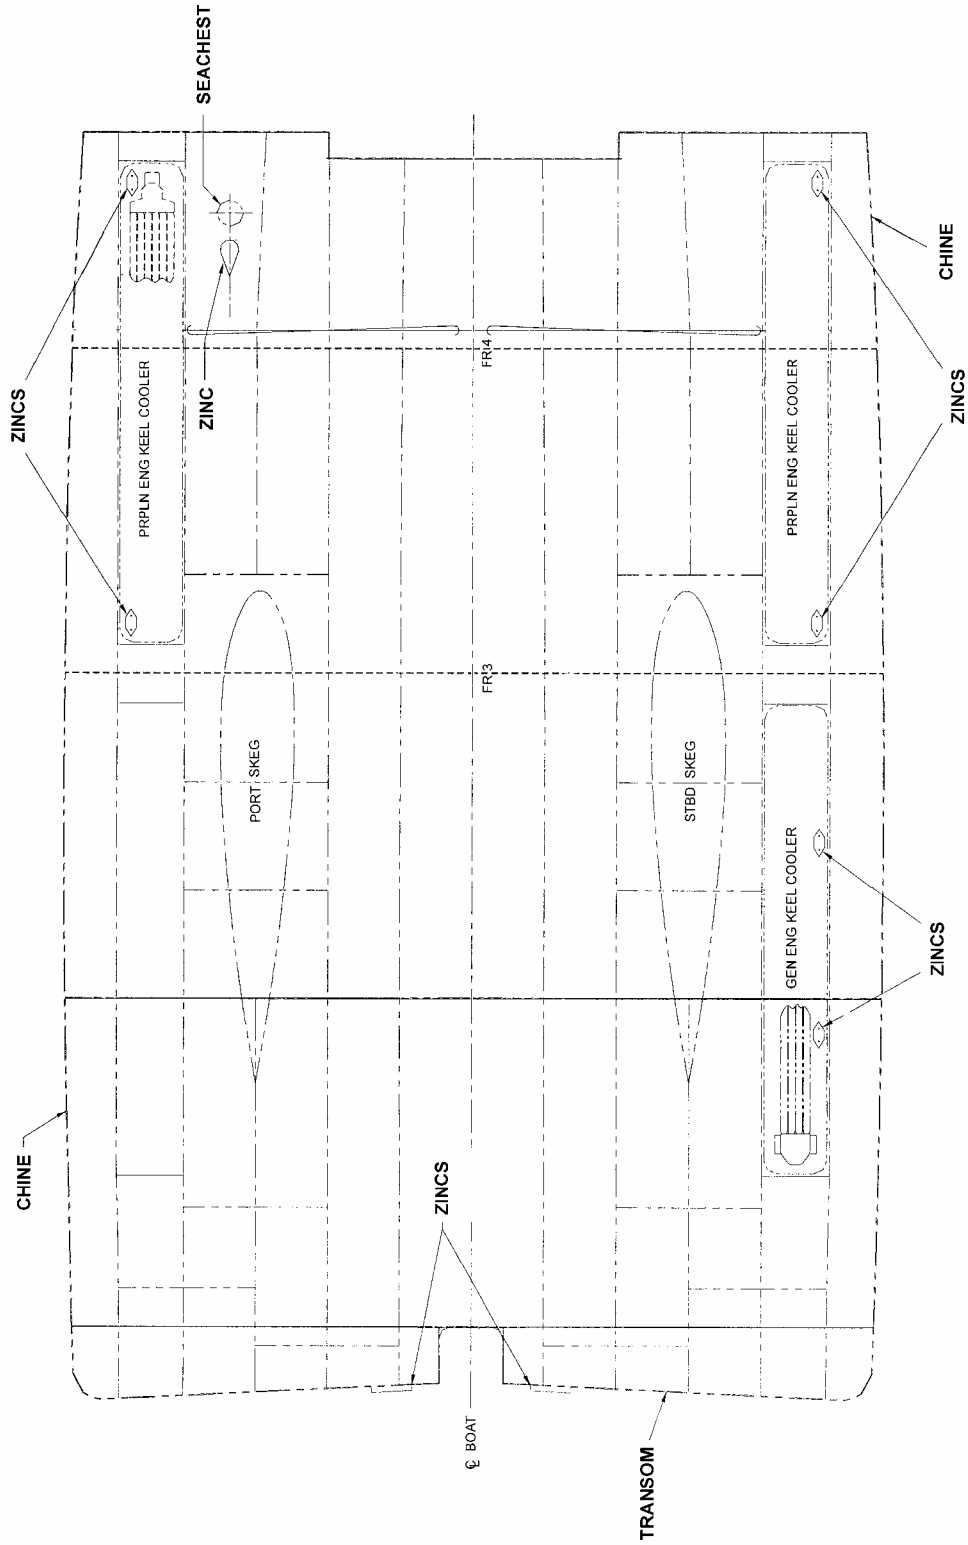

Figure 3-55
U.1. General The cathodic protection system (**figure 3-55**) helps to reduce corrosion on exterior hull surfaces and seawater piping systems.